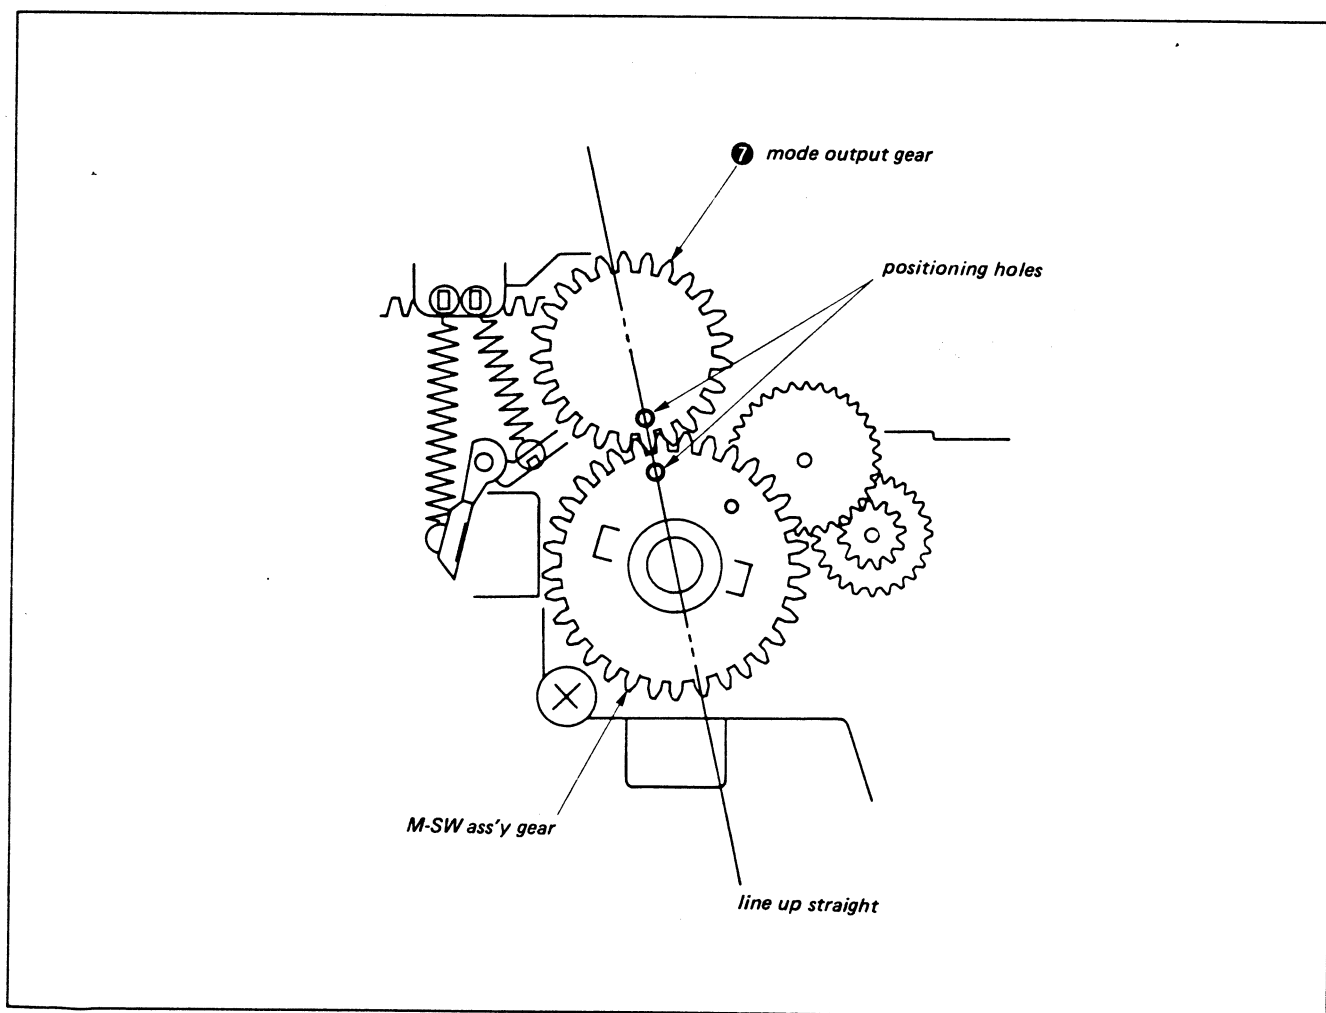

Fig. 3-35.
- 8) Mount the mode output gear ⑦ so that the positioning holes are lined up. (Fig. 3-35)
- 9) Mount stopper washer ⑥.
- 11) Mount B release arm assembly ⑤ and spring ④.
- 13) Mount the LD-1 board ③.